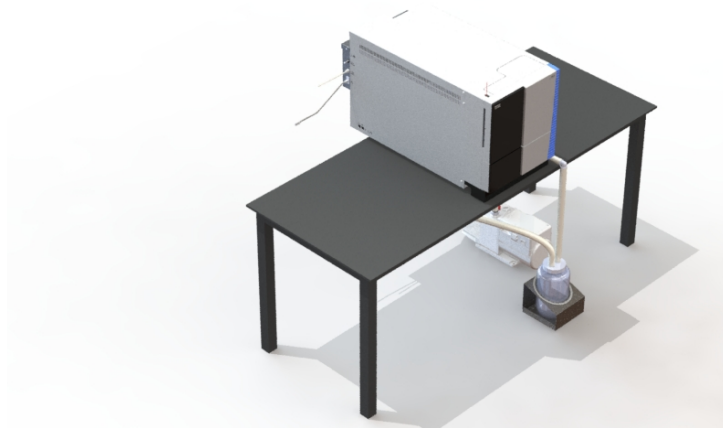

Figure 4: ISQ EC Bench Setup
- 4) Ensure that your work area is stable and free of vibration from nearby equipment. The ISQ EC mass spectrometer is a sensitive instrument. For this reason, the foreline pump must be placed on the floor below or next to the system. It is quiet at only 48 dB (A). See Figure 4.